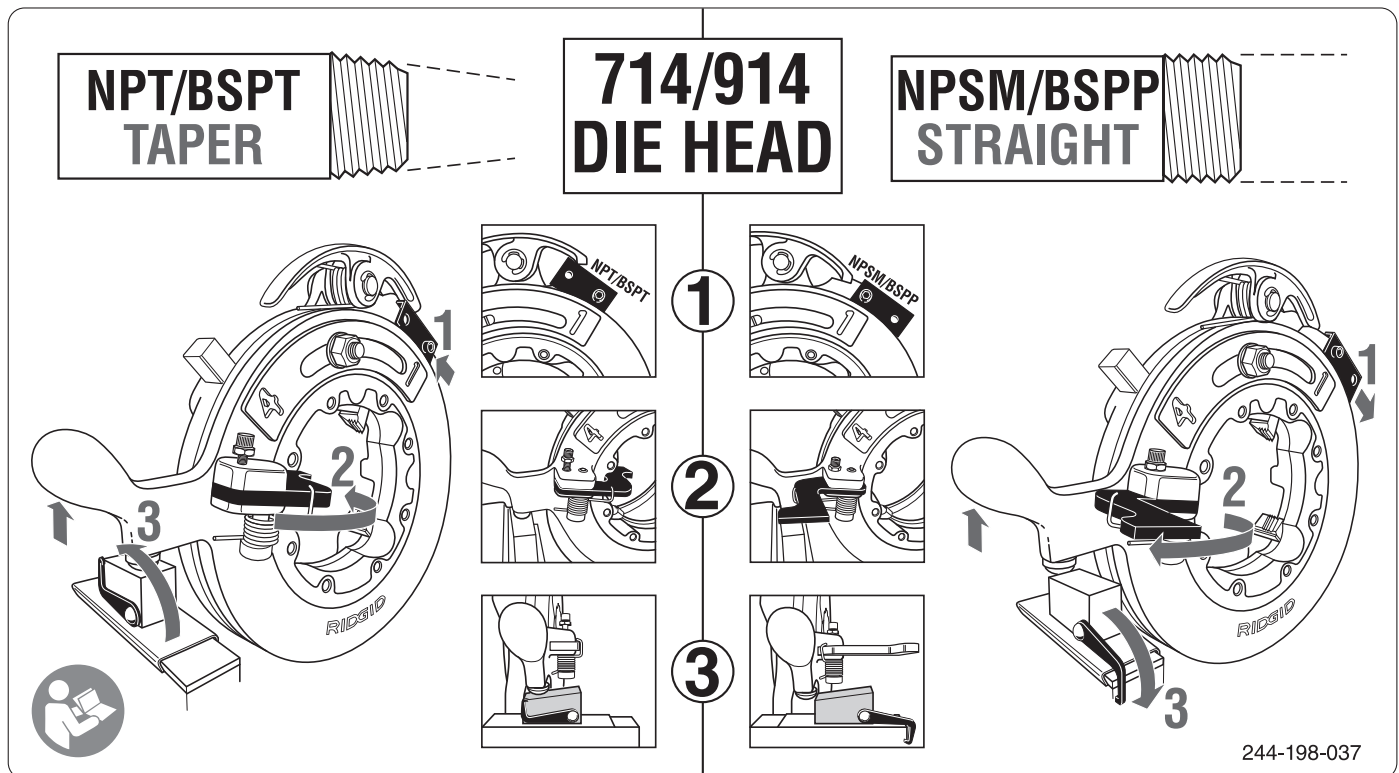

Figure 15 – Adjusting for Tapered or Straight Pipe Threads
- For tapered threads (NPT or BSPT depending on die head), referencing *Figure 15*, adjustments are “IN”.
- For straight threads (NPSM or BSPP depending on die head), referencing *Figure 15*, the adjustments are “OUT”.